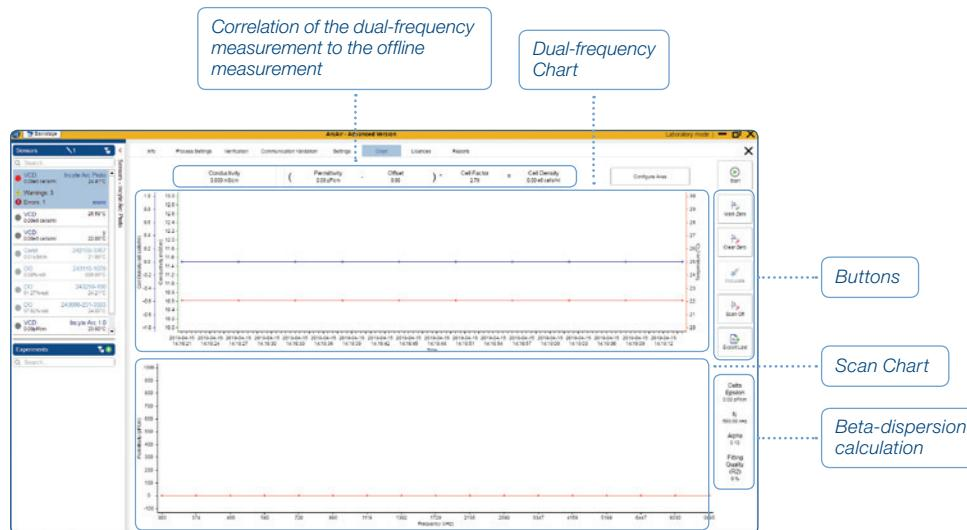

Figure 20: Chart Menu for Incyte Arc
The main tasks to start recording the data and to configure sensor parameter are placed in the Chart Menu (figure 20). The Menu is separated in 5 parts. On the upper part is the dual-frequency Measurement Chart (measurement over time) and the optional correlation factor to the offline method above, at the right side buttons to start recording, perform a product calibration and inoculate are placed. If available and activated the Scan Chart (permittivity over frequency) is placed below, indicating the beta-dispersion calculations (including a fitting indicator) at the right part.
- 1) Go to the «Chart Menu» (figure 20).
- 1) Go to the «Chart Menu» and press «Scan On» on the Button (figure 20). The Button will now switch to «Scan Off».
- 3) Go to the «Chart Menu» and press «Mark Zero» to perform a product calibration (figure 20) on the dual measurement and frequency scan (if activated).